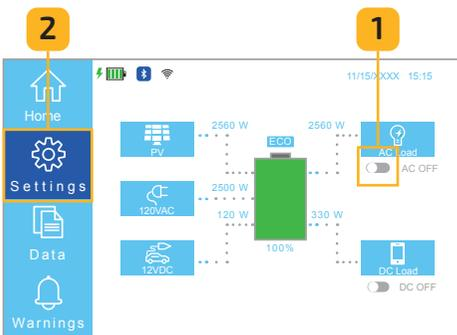

Fig. 6.15 Turn AC output switch OFF
1. On the Homepage UI, toggle the **AC Output** switch to **OFF** (Fig. 6.15).